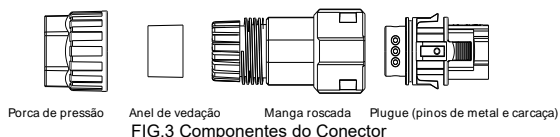

FIG.3 Componentes do Conector
1) Diagrama do conector, conforme FIG.3.